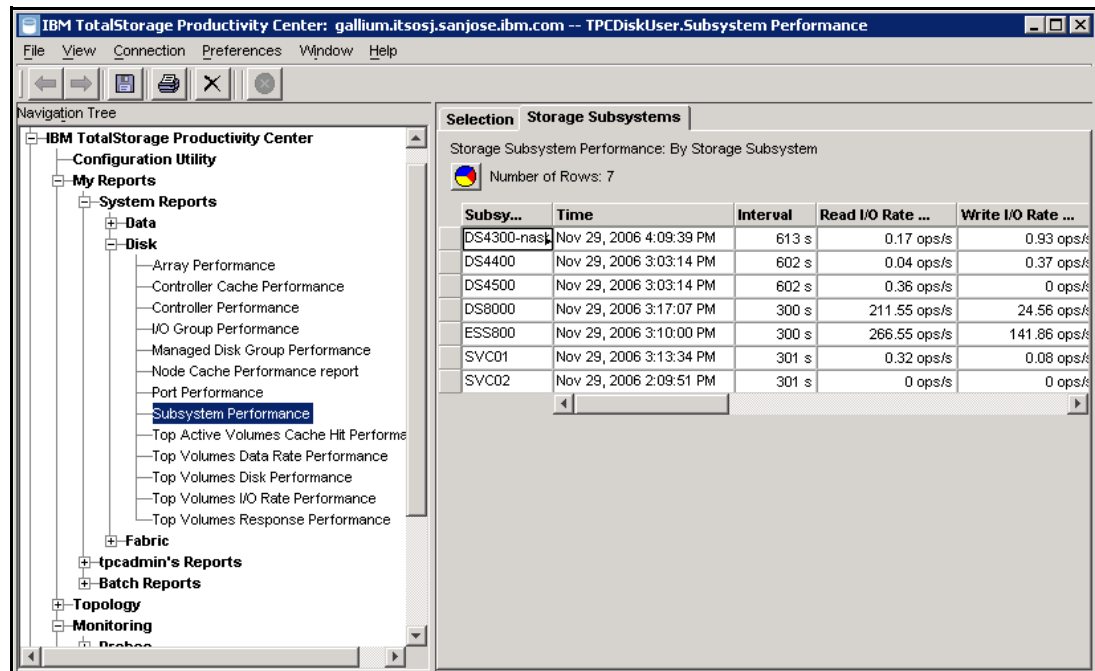

Figure 7-28 Subsystem Performance custom report
- Click one of the listed predefined reports (note that not all predefined performance reports support DS4000 at the time of writing). In the example, shown in Figure 7-28 we click **Subsystem Performance** report to display a list of all storage subsystems monitored by TPC with their performance metrics values.